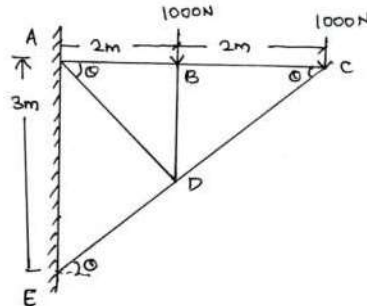

Figure.2
2. Determine the force in the members of the cantilever truss shown in Figure.2